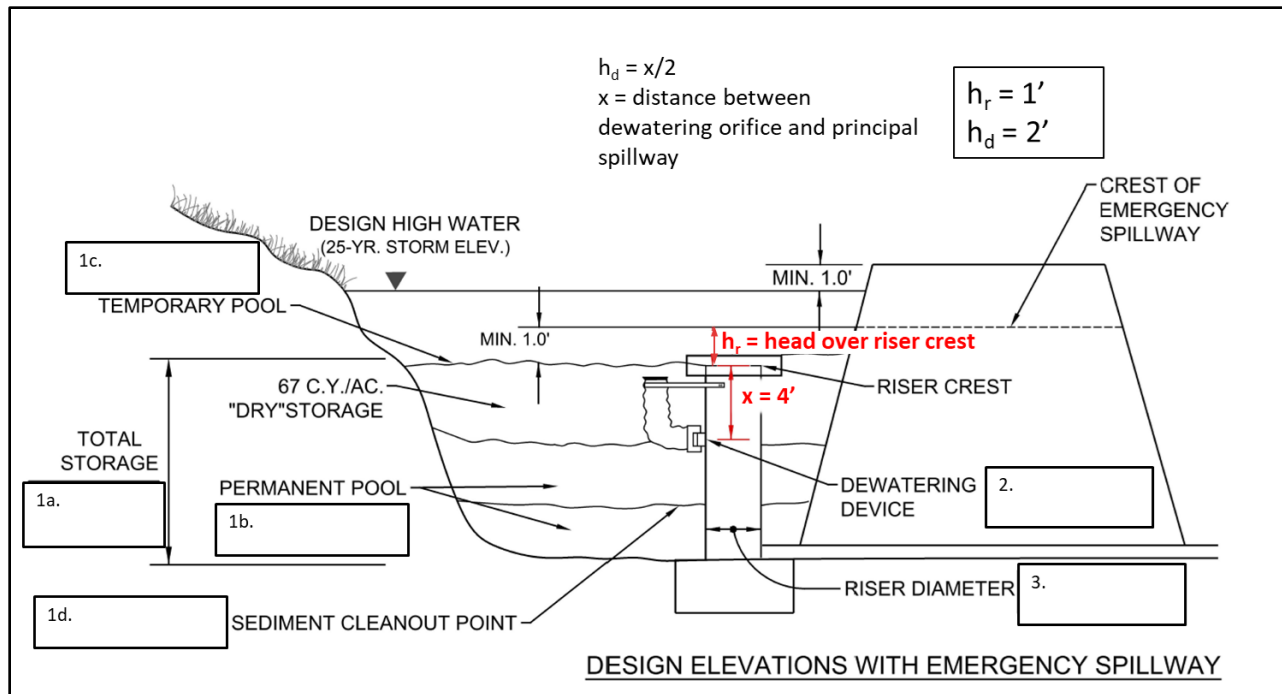

Figure 8-3. Schematic for Sediment Basin with Emergency Spillway
1. Use the sediment basin schematic in Figure 8-3 to help answer the following questions.
3. Use the sediment basin in Figure 8-3 to answer Questions 3a and 3b.
Step 1: Determine the peak flow rate (Q_p) using Figure 8-3. Q_p is equal to a two-year storm if there's an emergency spillway, or a 25-year storm if there is no emergency spillway.
Step 2: Use Figure C-SCM-12-8 in the VSWHB (Chapter 7.4, Appendix A) to determine the smallest riser that will pass the required flow. The head between the riser crest and the emergency spillway (h_r) is given in Figure 8-3 below as 1 foot. You will also need Q_p from step 1.